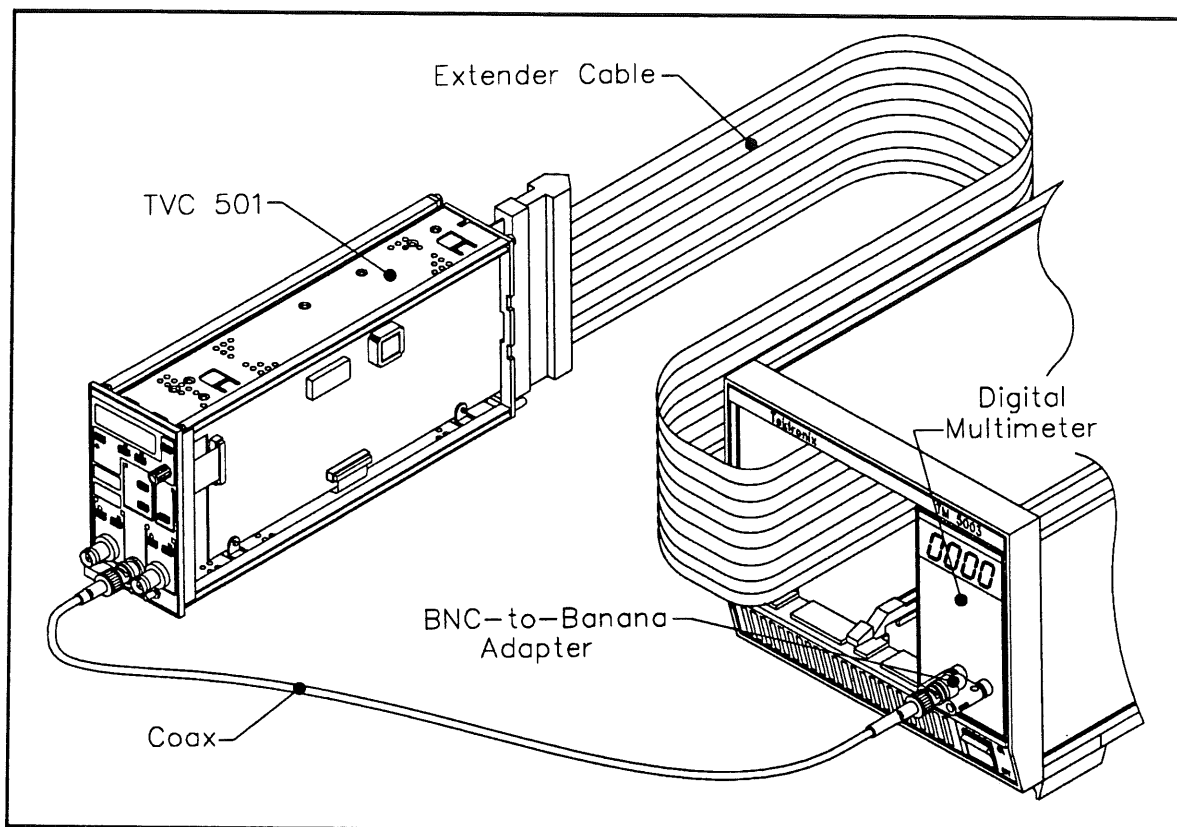

Figure 3-2. Preparing the TVC 501 for Calibration.
2. Attach one end of the flexible extender cable to an edge connector inside the TM 500 or TM 5000 Series Power Module and the other end to the TVC 501 edge connector. Figure 3-2 shows the connections.